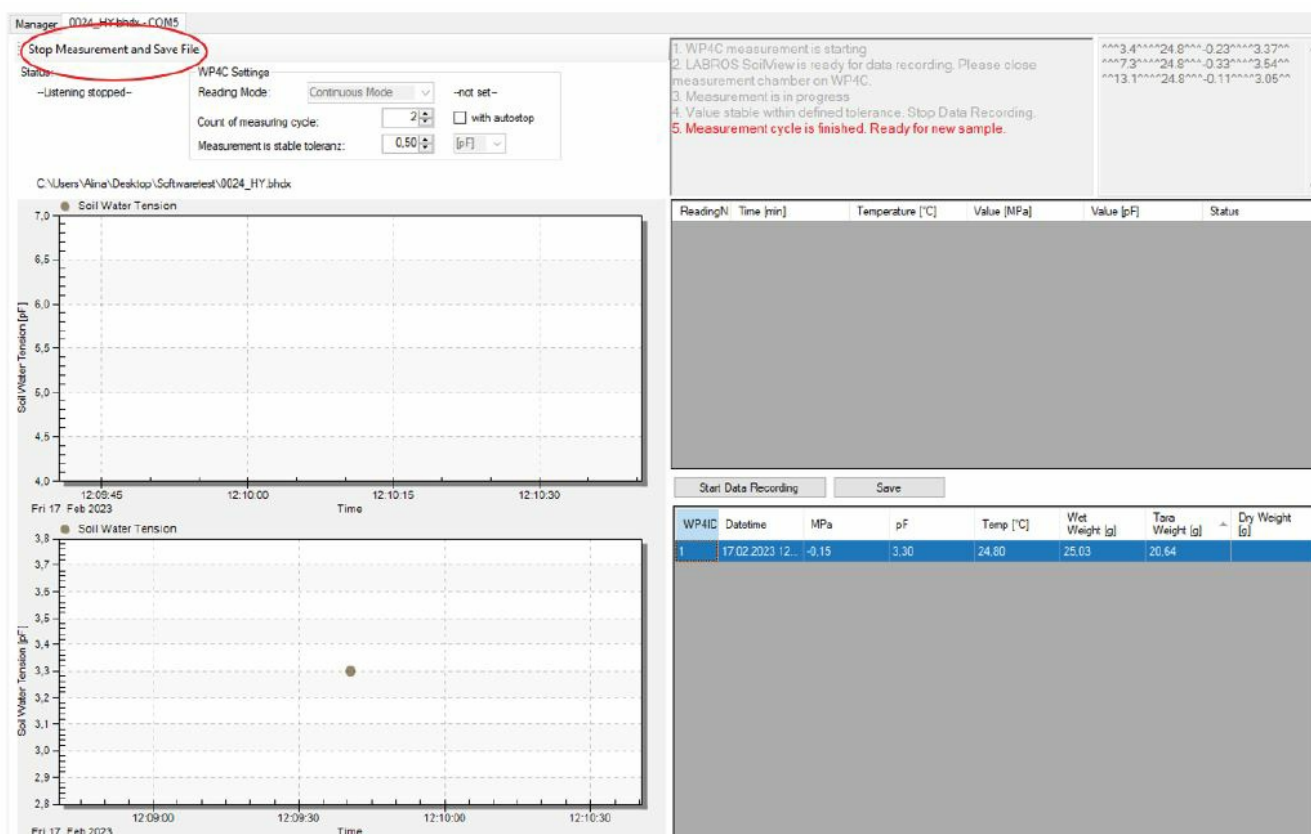

Figure 7 Stop Measurement and Save
- The next sample may then be measured by inserting a new sample, pressing Start Data Recording, and following steps 5—9. When all samples referring to the *.bhdX file are measured, select the Stop Measurement and Save File button, see Figure 7. All values in the lower table are entered into the *.bhdX file.